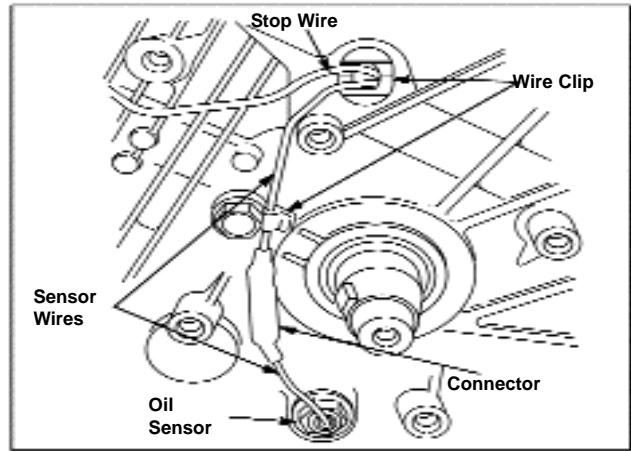

Figure 107 - Oil Sensor Wiring
3. Disconnect oil sensor blue wire and remove from retainer clips. See Figure 107
2. Route blue oil sensor wires through guide clips. See Figure 107.